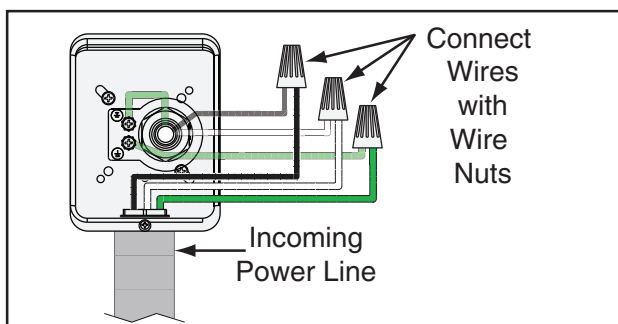

Figure 47. G0605X1/G0696X incoming power wires connected at junction box.
3. Connect the incoming power wires and ground wire to the wires in the junction box using wire nuts, (see **Figures 47–48**), then wrap each of the wire nuts and their respective wires with electrical tape to secure them.